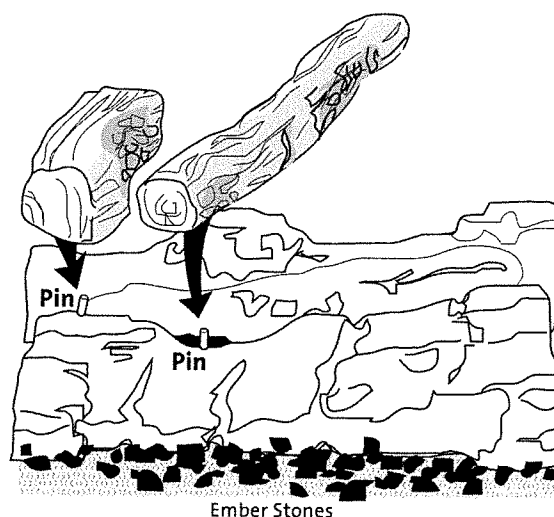

Figure 21. Positioning the top logs and ember stones.
4. **Install the Cross-over Log and Left Log** as shown in Fig. 21. Engage the pins in the Front Log with the corresponding holes in the bottoms of the upper logs and position the other ends in the notches on the Rear Log.
The package of Ember stones, located in the hardware bag, will simulate glowing coals when the burner is operating. For best results, spread the stones evenly across the burner tube screen. "Pea" size embers create the best appearance, while too large a "chunk" can create long stringy yellow flames. All of the embers do not have to be used. See Fig. 21.